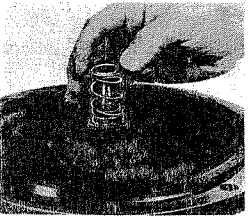

FIGURE 6
8. Install spring and spring retainer with raised face inside spring. (see Figure 6)